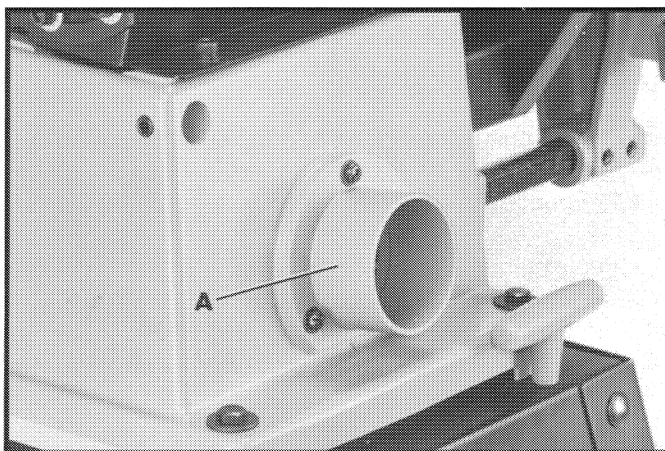

Fig. 35
A dust spout (A) Fig. 35, is supplied with your sander and can easily be connected to a standard shop vacuum hose. The inside diameter opening of the dust spout (A) is 2-1/4 inches.